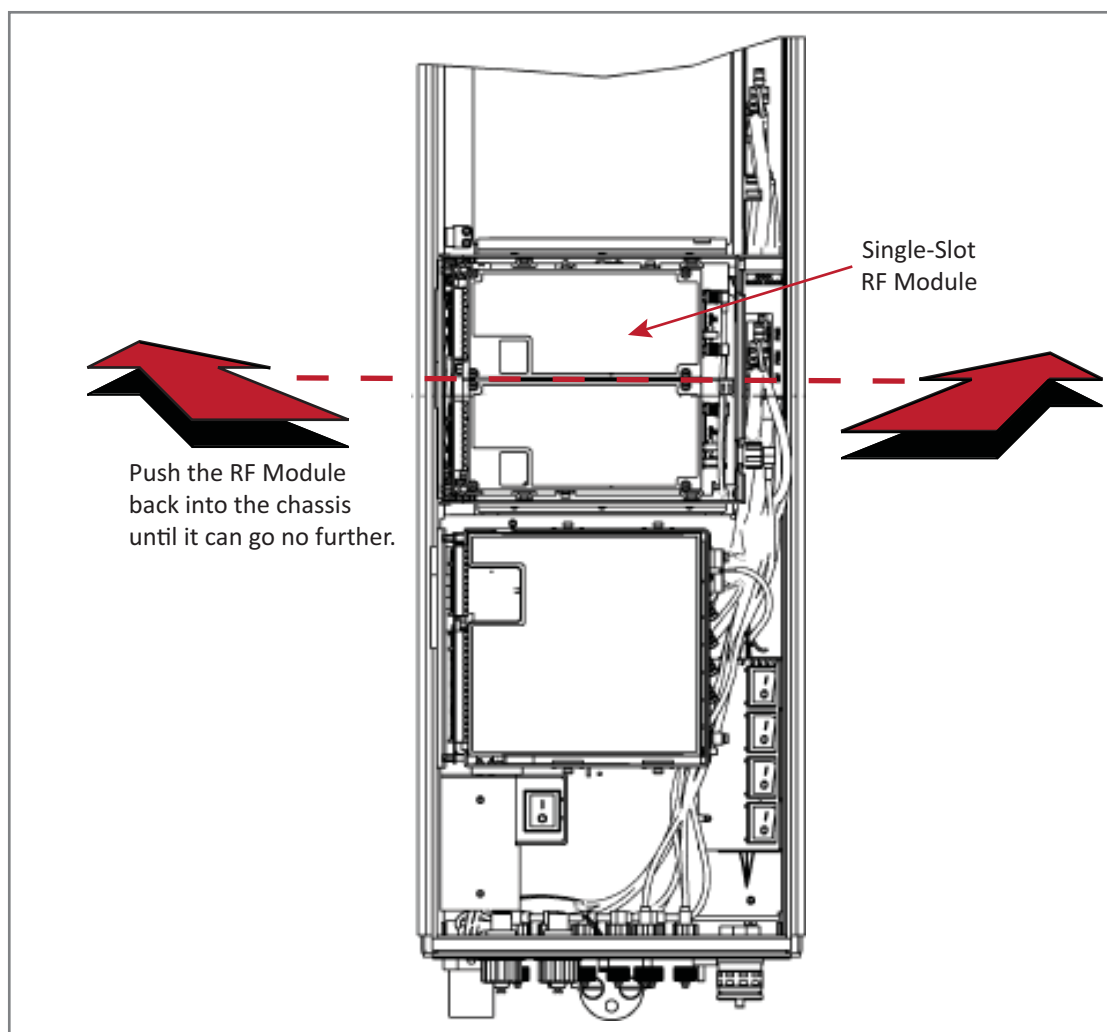

Figure 25. Seating a Single-Bay RF Module
- For Single-Bay RF Modules, see Figure 25 on page 95.